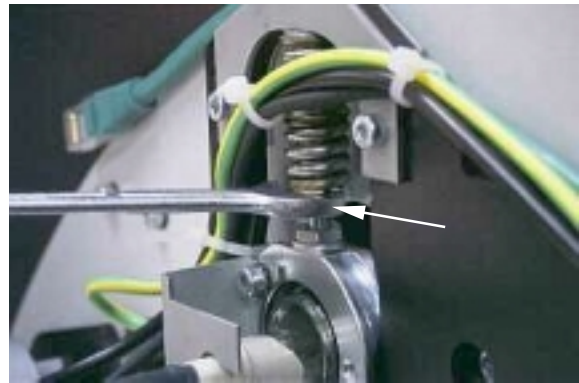

fig. 26
- To change the pressure, place the 10mm open-ended spanner on the M6 nut, that is directly under the compression spring (so, the upper jamnut, see figure 26, white arrow).